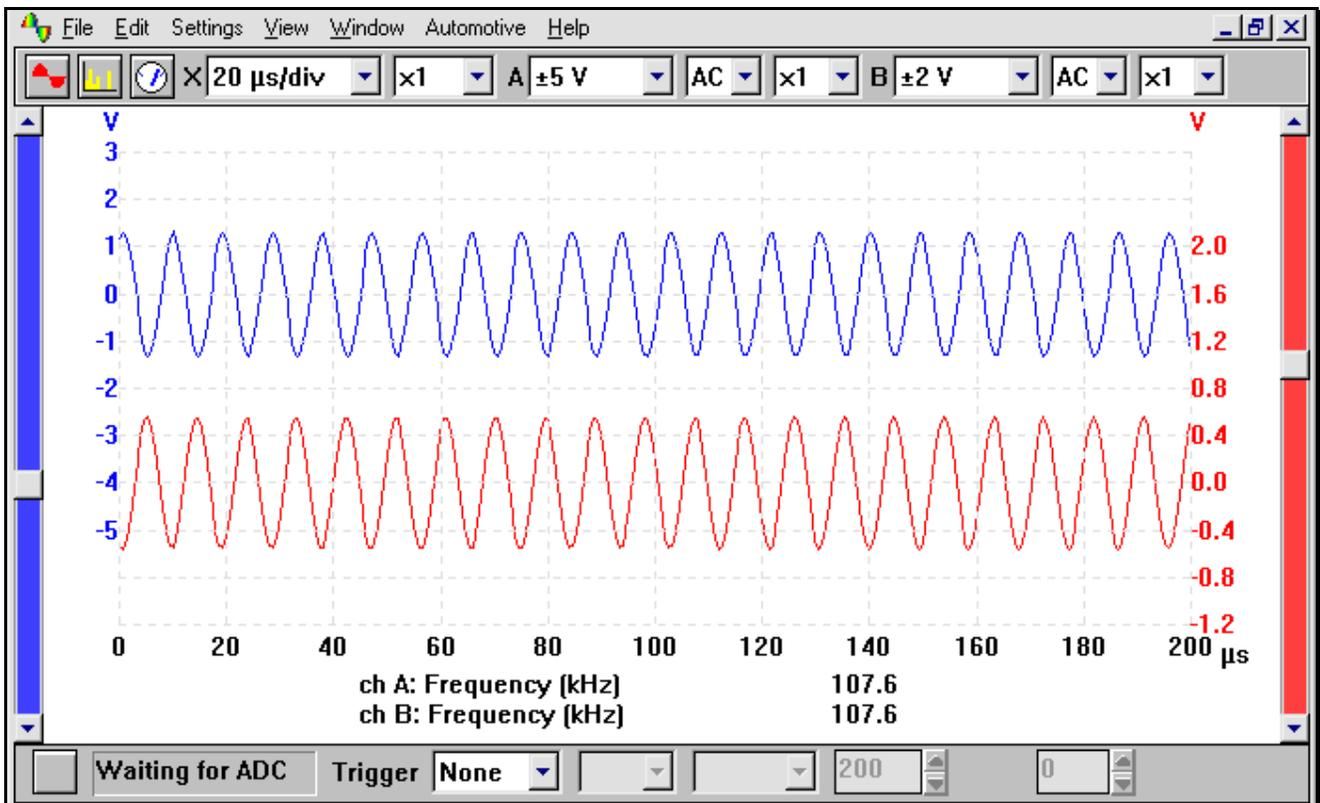

Fig 1.5
This camshaft sensor differs in operation from the other sensors by having an Alternating Current (AC) voltage supply to the CID sensor. The ECM supplies a very high frequency at around 150 KHz (2500 cycles per second) to an exciter coil that is located in close proximity to a rotating disc. The disc is located at the end of the camshaft and has a section removed that when 'open' allows the frequency to excite the receptor (through mutual inductance) and returns the signal to the ECM, indicating the position of number 1 cylinder. **Fig 1.5** shows typical outputs.